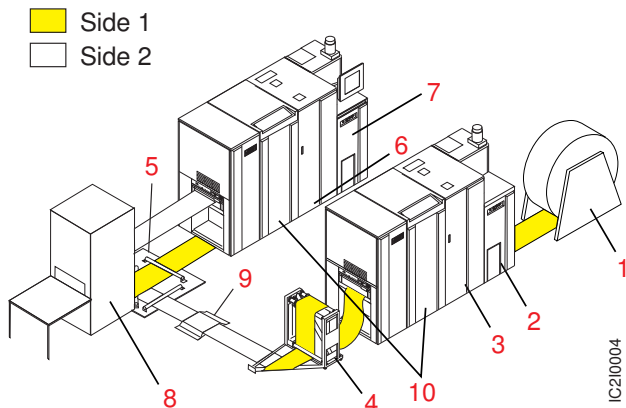
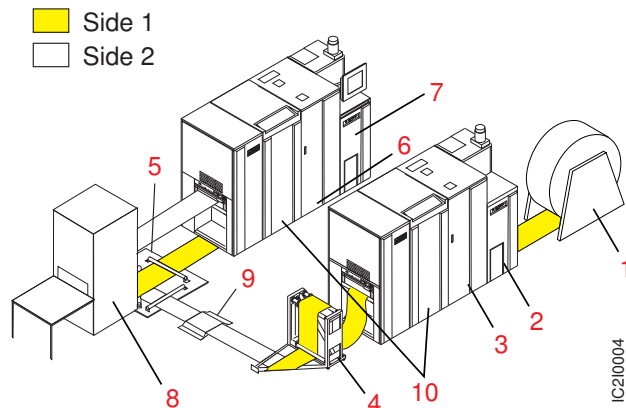

Figure 3. 'H' Configuration for the Infoprint 4000
Figure 4. 'H' Configuration for the Infoprint 4100
- 'H' configuration (see Figure 3 on page 18 and Figure 4 on page 19).